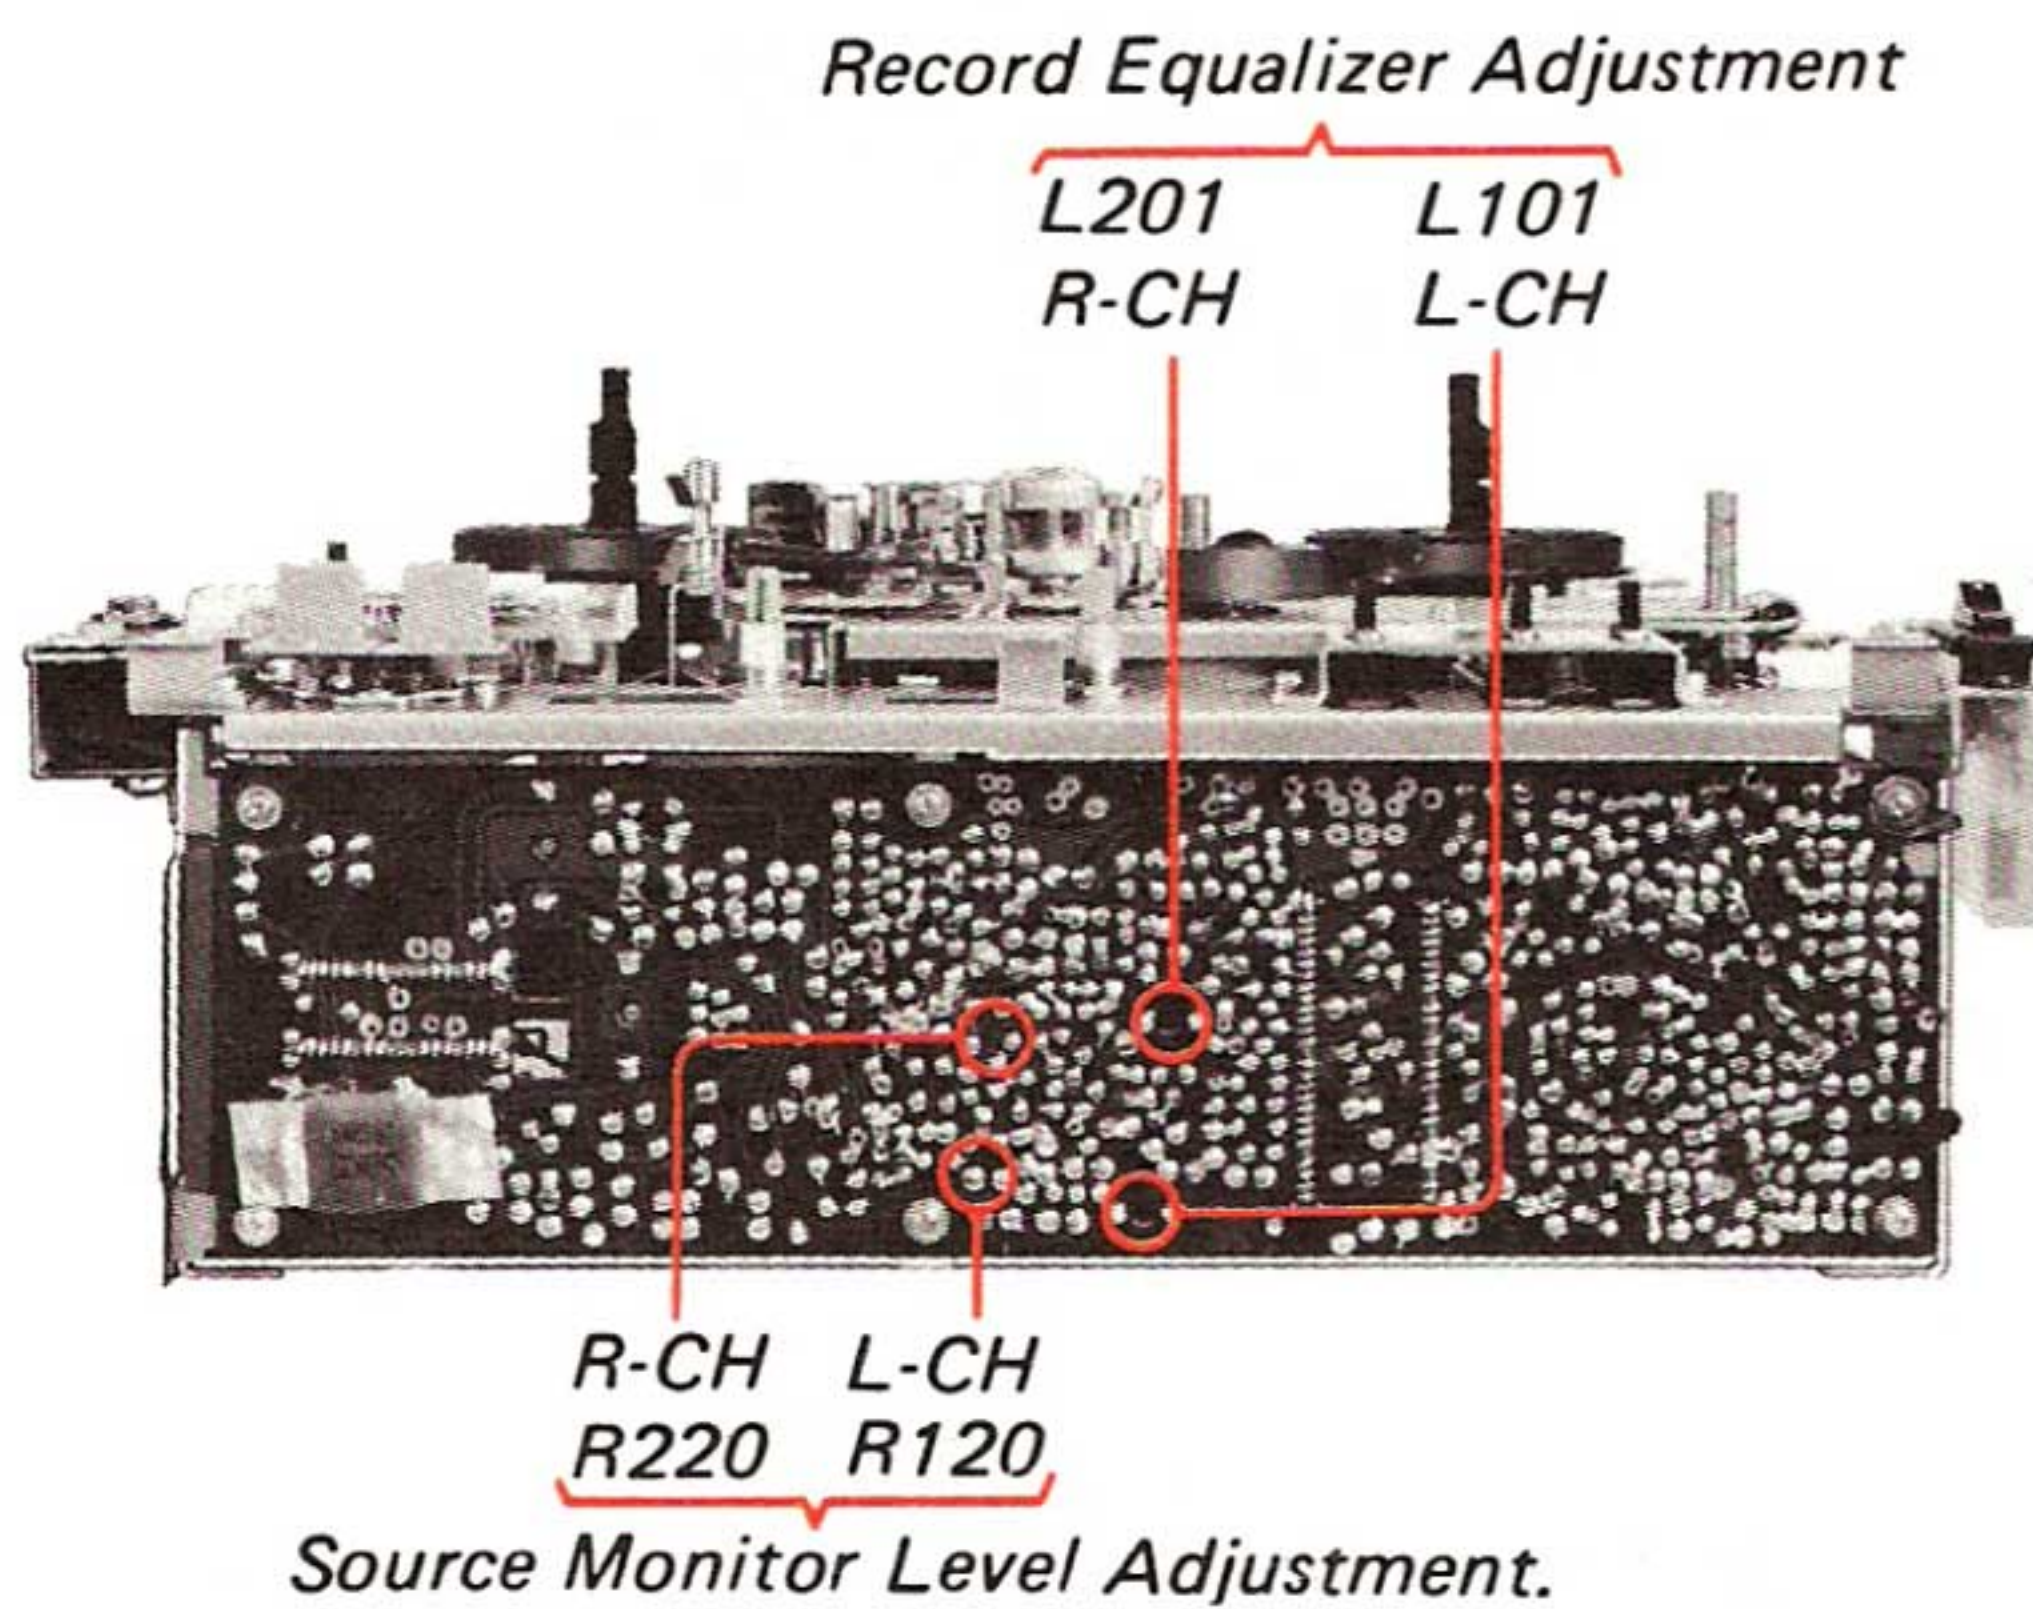

Fig. 3-2-14. Adjusting parts location for the items 11 and 12
Step 3. Record a 18 kHz signal of -90 dB (0.0245 mV) continuously and playing it back, adjust L101 (L201) so that the same VTVM reading as the step 2 is obtained (See Fig. 3-2-14.)